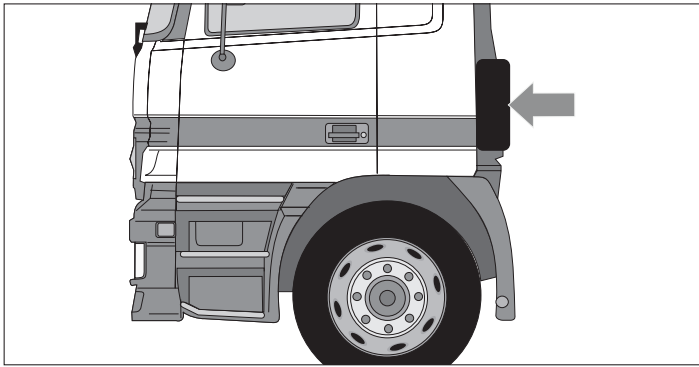

Fig. 3 Installation example
- The fuel tank may only be mounted on the outside of the vehicle body (e.g. on rear wall of driver's cab, see Fig. 3).